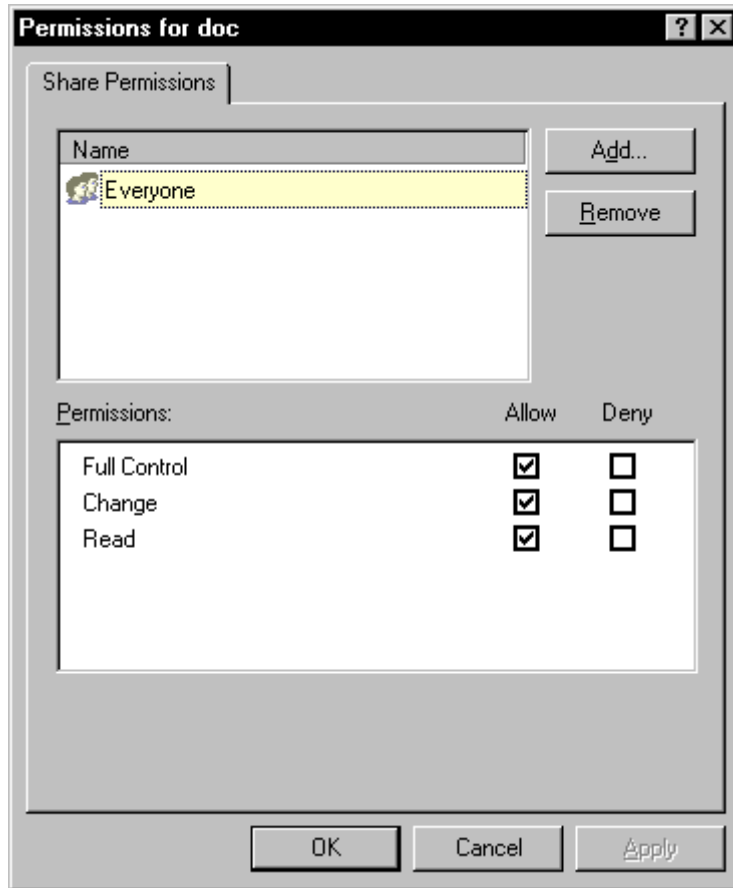

Figure 12-3
5. Select **Everyone**, and then click **Remove**. (Figure 12-3).